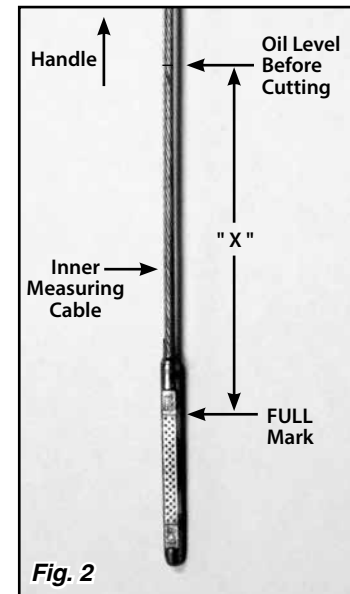

Fig. 2
Step 6: Remove the handle and inner measuring cable from the dipstick tube assembly. Measure the distance from the top of the oil on the inner measuring cable to the "FULL" mark on the inner measuring cable. Write that measurement down (" X "). **Fig. 2**